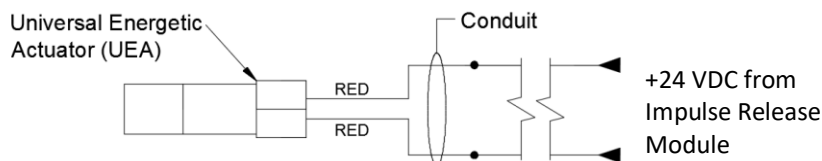

Figure 77 – Universal Energetic Actuator Wiring Diagram
- Step 7. Connect item 6 wire leads to the host control panel or module. See Figure 77.
- Step 8. Remove item 2 and item 3 from item 1. Keep these items for future use should the cylinder have to be removed for service.
- Step 9. Check to ensure that item 4 is armed (firing pin retracted) and the safety pin is in place. If the firing pin is extended (operated), the actuator must be reset. See Section 6.1 for reset instructions.